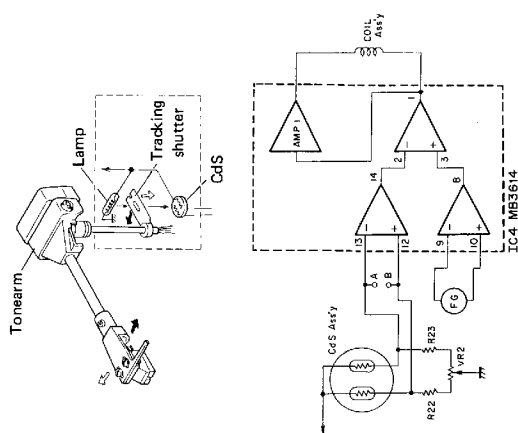

Fig. 4-2 Tonearm drive outline
1. The drive circuit diagram is outlined in Fig. 4-2. The major components in this circuit are the differential amplifier and AMP1.
1. The structure of the tracking sensor stage is outlined in Fig. 4-2. The major component circuit is the bridge including two Cds elements, R22, R23 and VR2. VR2 is used to adjust the potential difference between A and B to zero when the stylus and carrier are at right angles to each other.